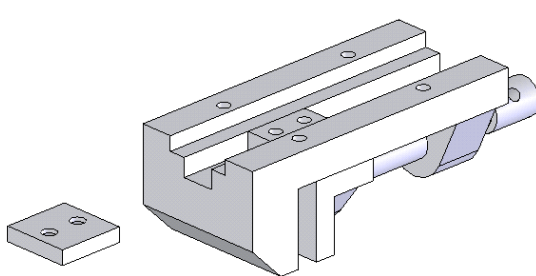

Figure 10-68 Rotated assembly
2. Rotate the assembly such that the bottom face of the assembly is displayed as shown in Figure 10-68.